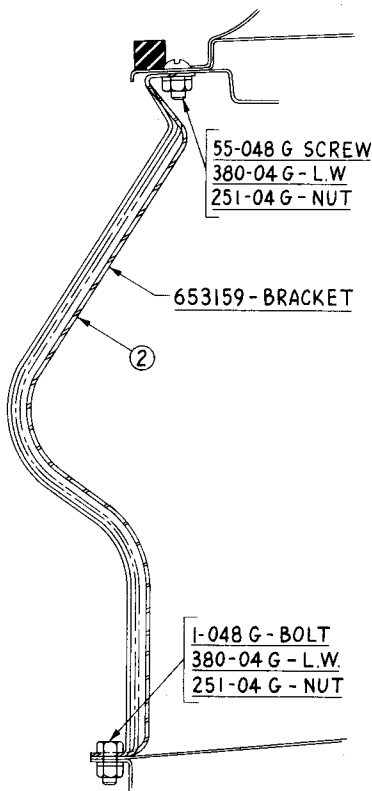

FIG. 2
3. Drill 2 holes  $9/32$ " diameter through punch marks in upper flange of new bracket. Bolt in the new bracket at the top, using old bracket holes. Position the lower end of bracket even with dash flange. Locate and drill 2 holes ( $9/32$ " diameter) through flange. Bolt on lower end of bracket as shown in Fig. 2.